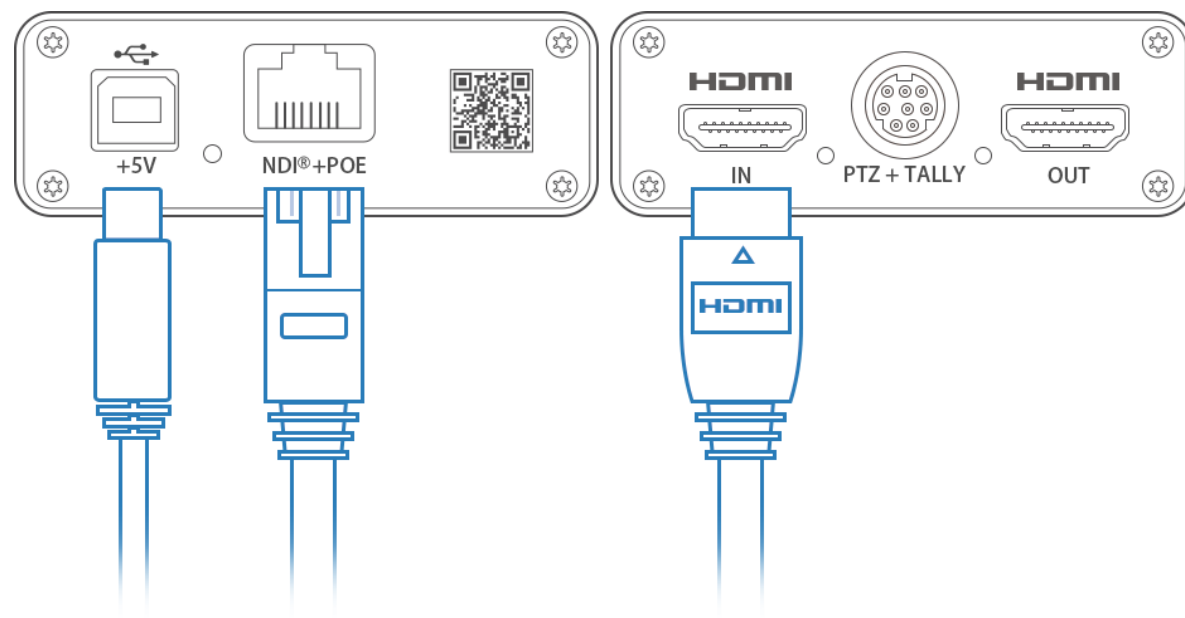

Figure1. Connections
**Step 1** Connect your converter via Ethernet and power it up as shown on the left Figure1. Connections.